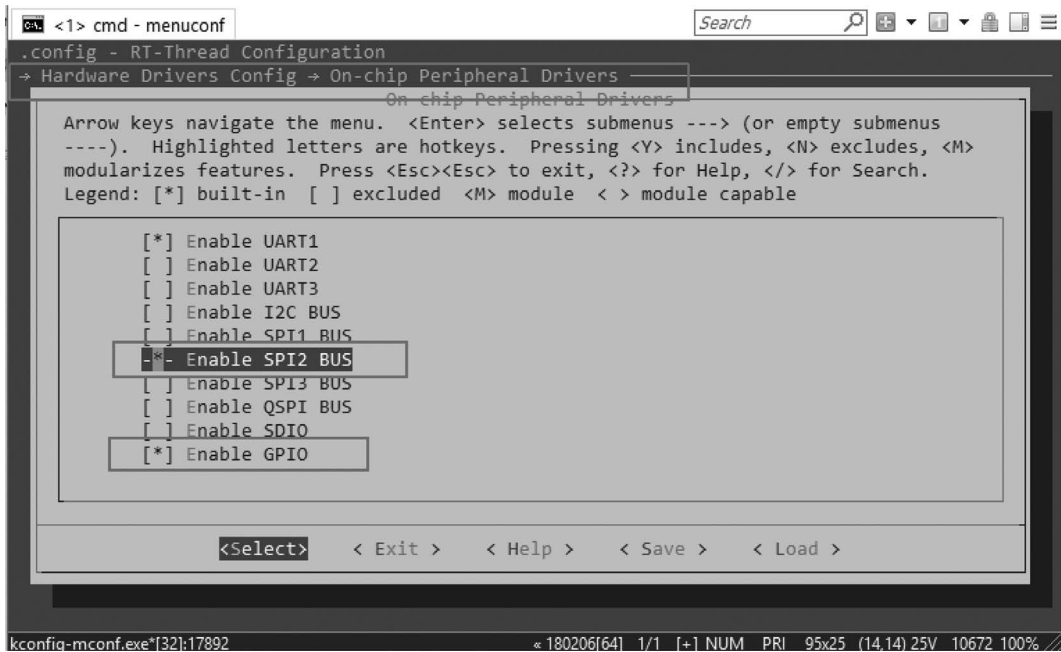

FIGURE 11.28 Network configuration 1.
1. Enable GPIO (Enable PIN device) and SPI2 (Enable SPI device) according to the menu directory prompt in Figure 11.28.